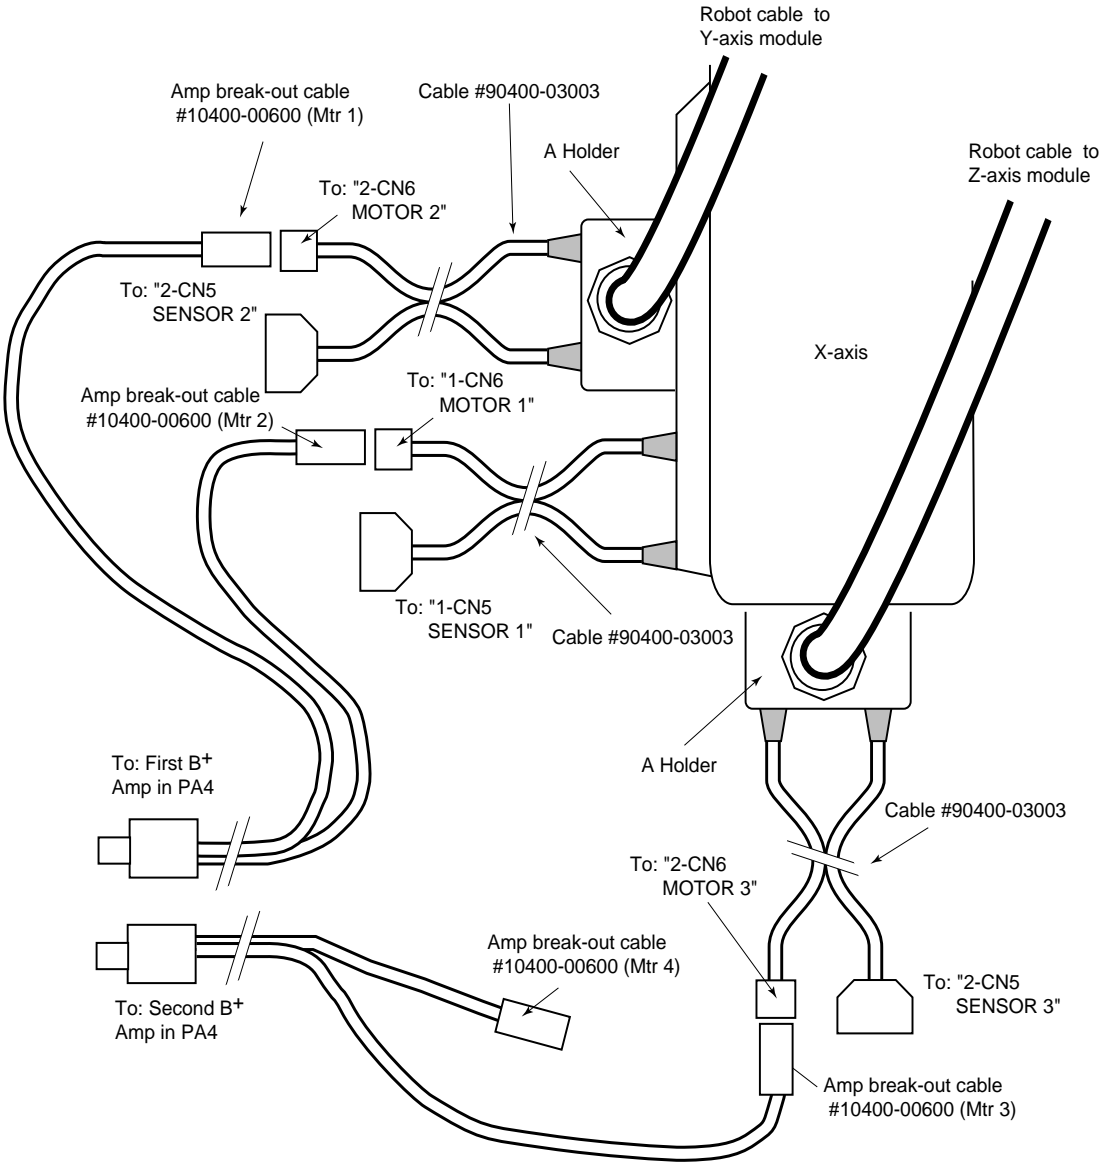

Figure 5-10. Connecting to an Adept MV Controller
- a. Connect the two barrel ends of the cable to the X-axis module as shown in Figure 5-10. These connectors have different pins sizes and cannot be installed incorrectly.
- b. Attach the A holder end of the robot cable to the side of the X-axis as shown in Figure 5-10 (refer to Section 4.3 for holder mounting).
- c. Connect the two barrel ends of the cable to the A holder as shown in Figure 5-10. These connectors have different pin sizes and cannot be installed incorrectly.